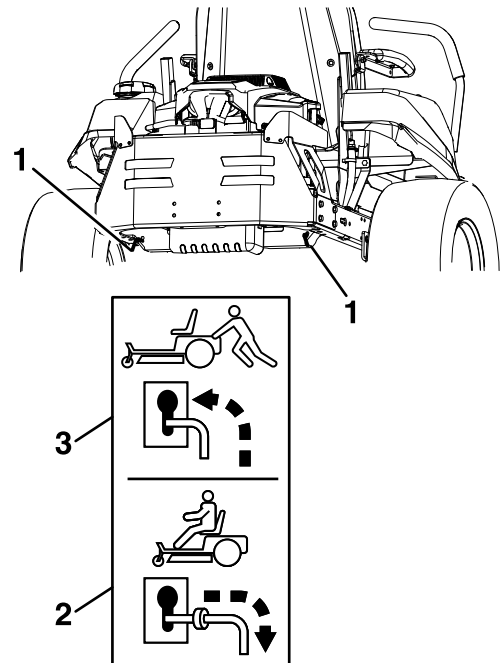

Figure 24
3. Move the bypass levers forward through the key hole and down to lock them in place as shown in Figure 24. Ensure this is done for each lever.
Move the bypass levers rearward through the key hole and down to lock them in place as shown in Figure 24. Ensure this is done for each lever.